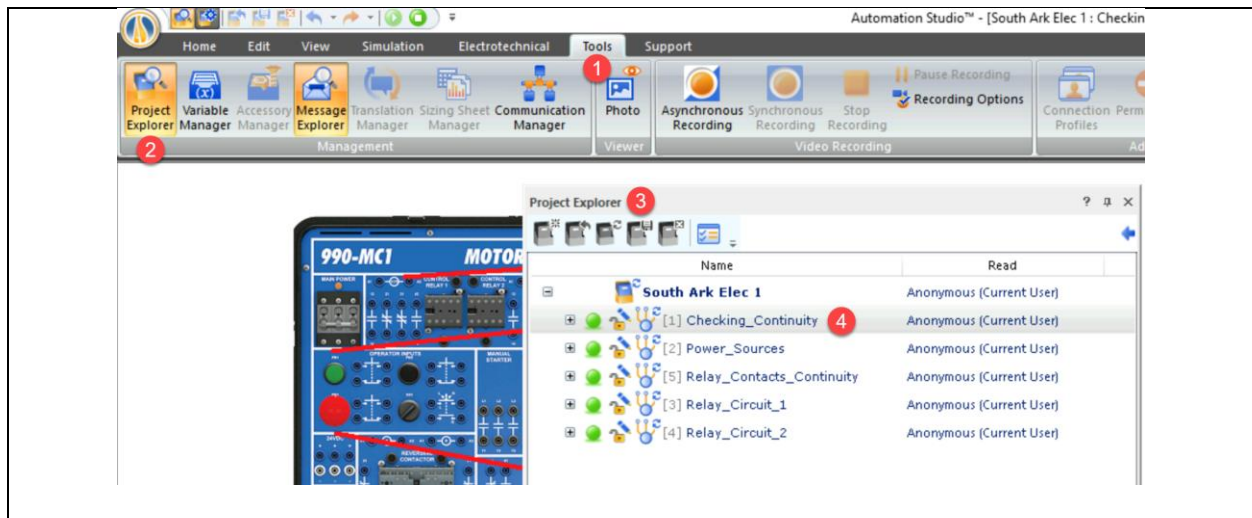

Figure 2. Project Explorer in Automation Studio.
2. Open the simulation file named: “PTEC1113 Lab 2_1 Electrical Concepts”. Figure 2 shows how to access the Project Explorer, which will show the 5 documents that make up the simulation. Each document has a circuit on it.
3. Figure 2 shows the steps to get to the Project Explorer in Automation Studio:
4. Go to the Checking_Continuity document (marked as “4” on Figure 2)